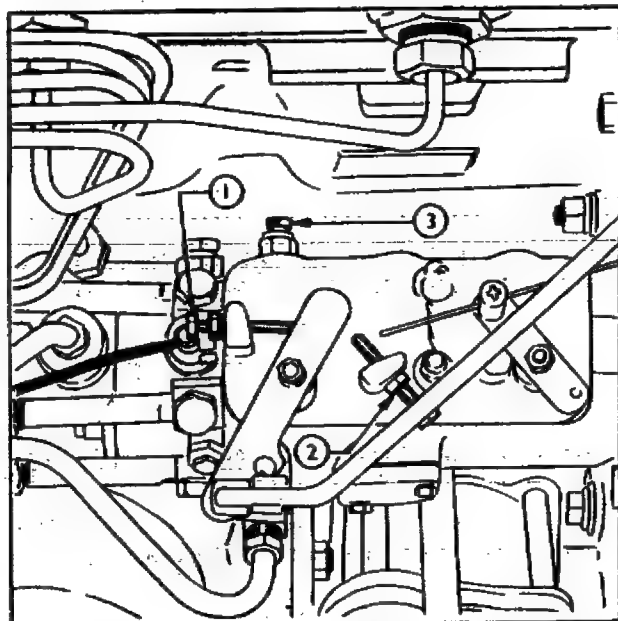

Fig. 95 1 Maximum Speed Stop Screw
4. Slacken the bleed valves on the governor housing and operate the lift pump priming lever until the fuel flow is free of air. Tighten the governor housing bleed valve (see Fig. 95).